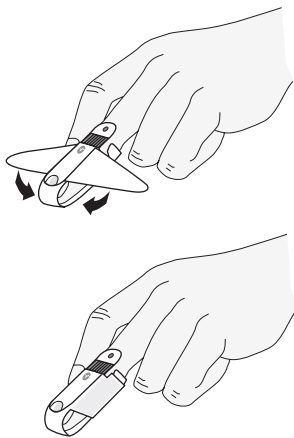

Figure 7
5. With the emitter positioned over the fingernail, secure the wings around the finger (see Figure 7).